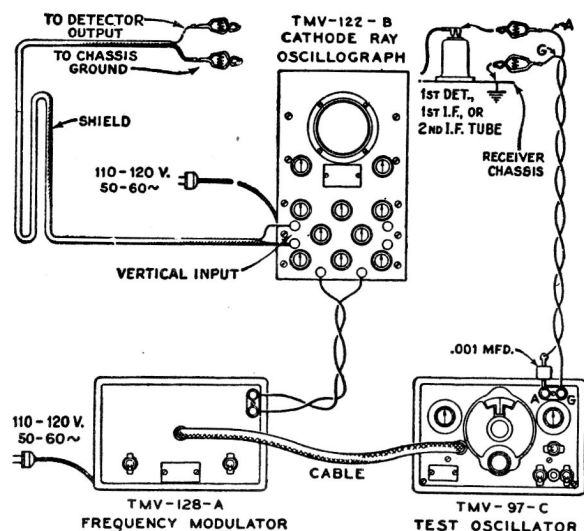

Figure 7—Alignment Apparatus Connections
chassis. The "Ext. Sync." terminals of the Oscillograph should be connected to the Frequency Modulator as illustrated in Figure 7. A .001 mfd. capacitor installed in series with the Oscillator "Ant." output lead will prevent the voltage constants of the stage being aligned from becoming upset. Proceed further as follows:—
- (c) The Frequency Modulator should then be placed in operation and interconnected with the Full Range Oscillator by means of the shielded patch cord provided. Figure 7 shows the proper arrangement. Set the Frequency Modulator sweep range switch to its "Lo" position and turn the Oscillator modulation switch to "Off". Change the timing (Sync.) control of the Oscillograph to "Ext." and place the range switch to its No. 2 position. Then shift the tuning of the Oscillator so as to increase its frequency, until two distinct and similar waves appear on the Oscillograph screen and become coincident at their highest points. These curves will be found to occur at an Oscillator setting of approximately 540 kc. They will be identical in shape but appearing in reversed positions. Adjust the frequency control of the Oscillograph in order to cause the waves to conform
lator, detector and antenna trimmers, C-25, C-14 and C-3 respectively, so that each brings about maximum amplitude of output as shown by the wave on the Oscillograph. It will be necessary to have the timing control of the Oscillograph on "Int." for this operation. Then shift the timing control to "Ext." and place the Frequency Modulator into operation with its connections to the Oscillator and Oscillograph as shown on Figure 7. Retune the test Oscillator (increase frequency) until the forward and reverse waves show on the Oscillograph and become coincident at their highest points. Adjust the trimmers C-25, C-14 and C-3 again, setting each to the point which produces the best coincidence and maximum amplitude of the images.